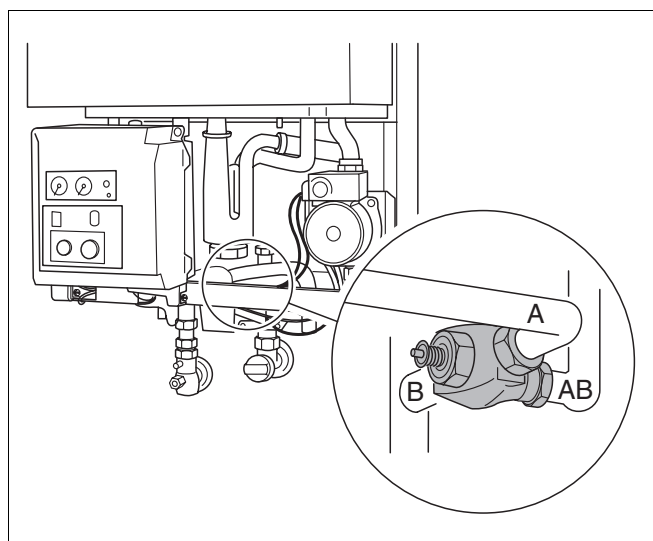

Fig. 84 600 - 11S / 19S / 24S / 24C:
- Loosen the 3 compression nuts (fig. 84).